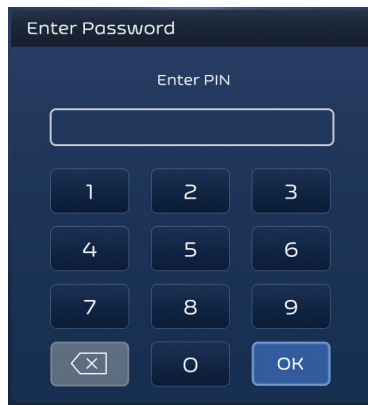

Figure 3. Initial Password Login Screen
3. Once POST is complete, the initial password login screen will appear. Enter the login password using the keypad and then press the OK button (see figure 3).